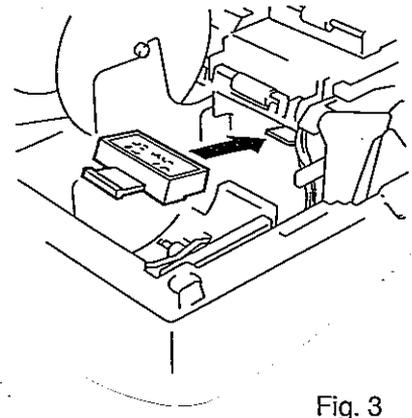

Fig. 3
- 4) Install the stamp by inserting it in the direction of the arrow mark as it clicks. (Fig. 3)